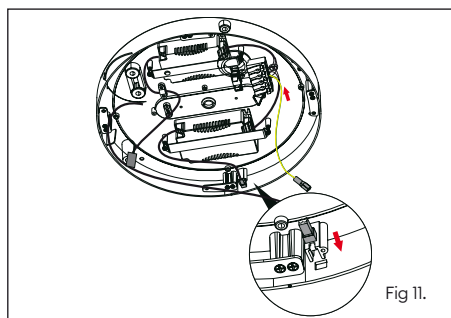

Fig 11.
4. Insert the connector socket into the allocated hole in the base section and fix into place by installing the supplied plate and screw (fig 11 and 12).